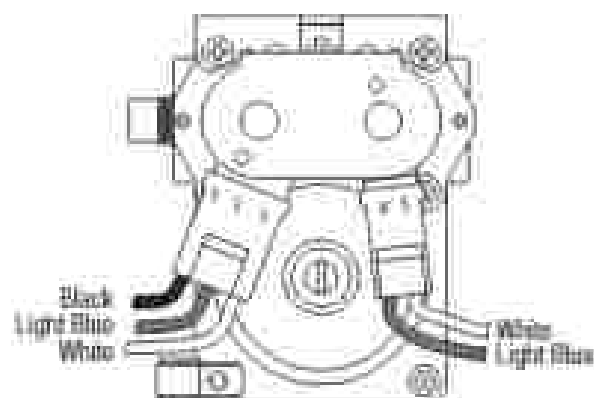

Figure 1 • Measuring gas valve resistance.
3. Use an ohmmeter to determine if a gas valve coil has malfunctioned. Remove harness plugs. Measure resistance across the terminals (see Figure 1). Readings should match those shown in the following chart. If not, replace coils.